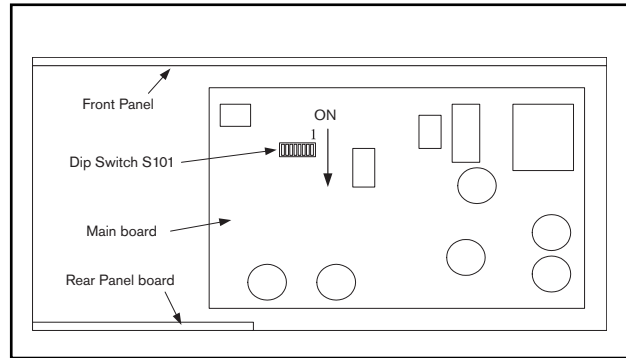

Figure 2 - Dip Switch Location
- Locate dip switch # S101, as shown in Figure 2.